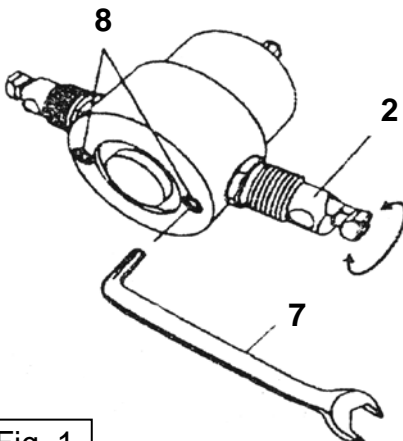

Fig. 1
2. The cutting shaft holders (2) can be turned by 360° to any desired working angle. Use the supplied Allen key (7) to loosen the corresponding fixing screw (8). Turn the cutting shaft holder to the desired angle and firmly re-tighten the fixing screw (fig. 1). Before each use check if the fixing screws and the cutting shaft holders are securely tightened.